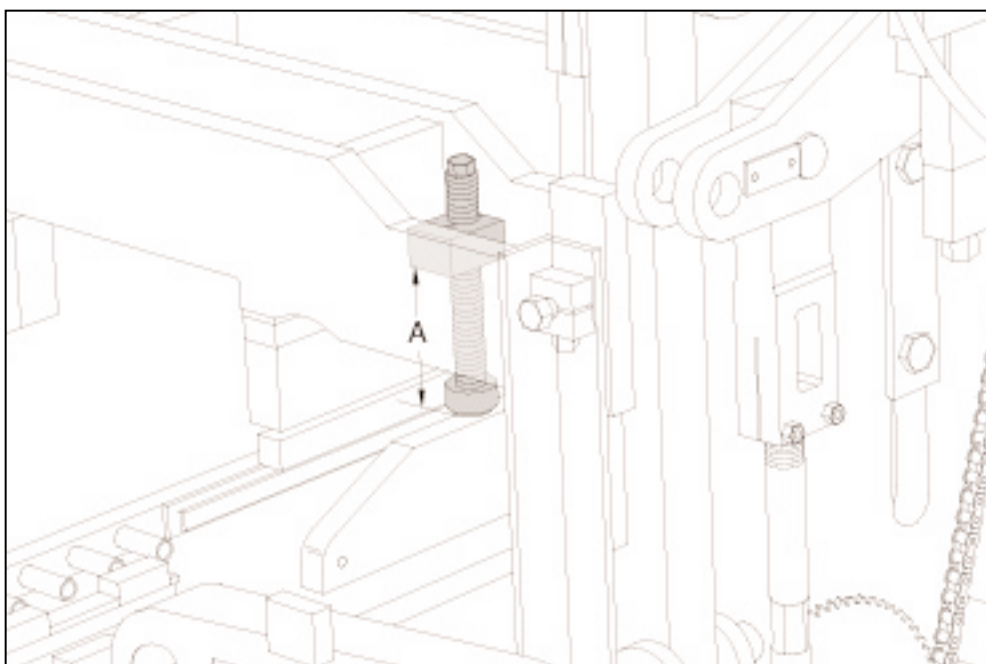

Figure 18.17 SHOCK ABSORBERS ADJUSTMENT.
18.1.10 Install the **445mm [17.5"]** shock absorbers **#395992**. Adjust the shock absorbers to a dimension **344mm [13.562"]** (represented by "A" in figure 18.17) from the bottom of the welded clamp blocks to the bottom of the rubber pads.